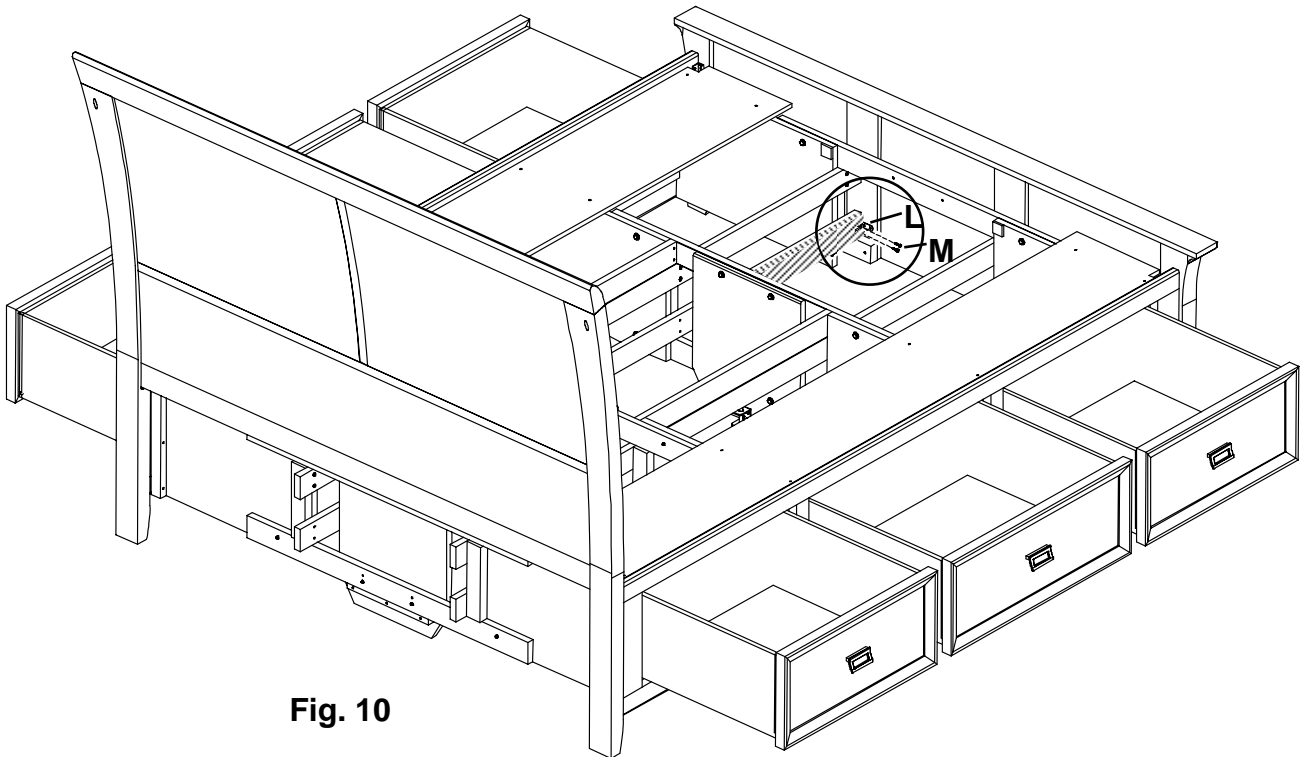

Fig. 10
10. Facing the Footboard, attach a 90° Bracket (L) to the Pedestal Assembly to the Footboard with four #6 x 1/2" Philtruss Screws (M). Repeat for the other side. See Figures 10 and 10a.